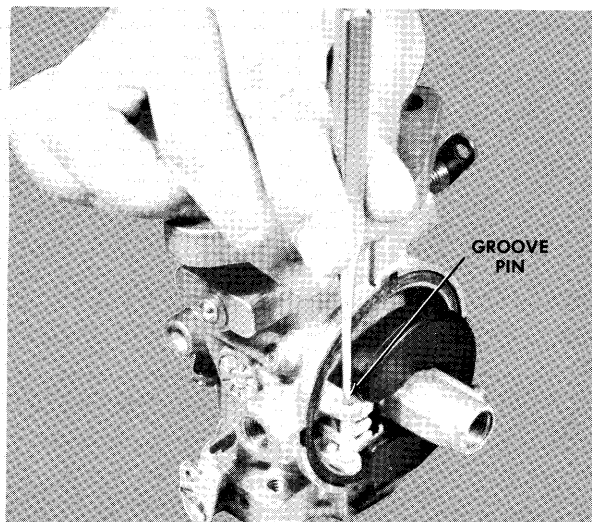

Figure 3—Removing Groove Pin
- C. Remove float by removing groove pin as shown in figure 3 and lift float from carburetor.
- A. Position float in carburetor (refer to figure 3).